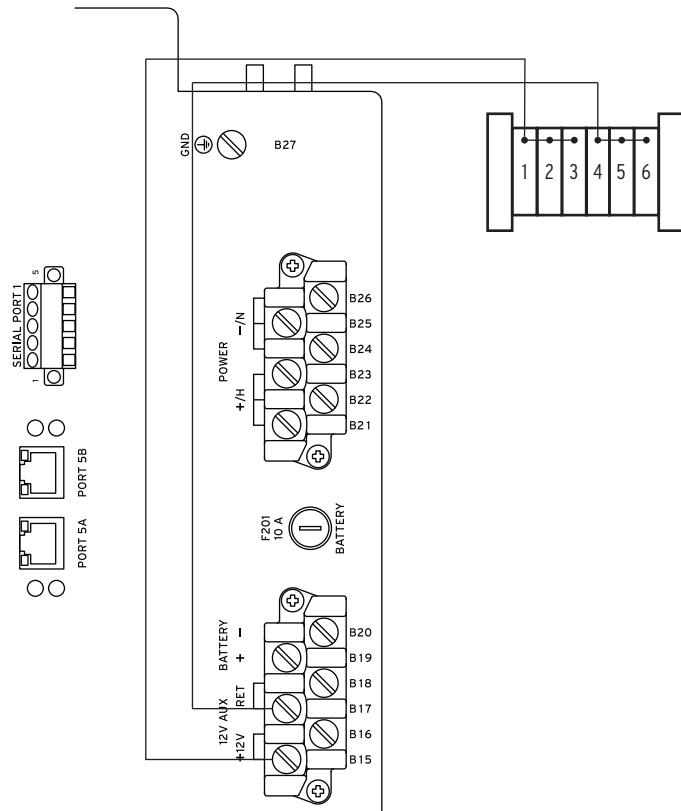

**Figure 6 Connect 12 V Terminal Block Wires**
- Step 10. Route the wires down the other side of the control module and attach the red wire to B15 and the black wire to B17. See *Figure 6*.